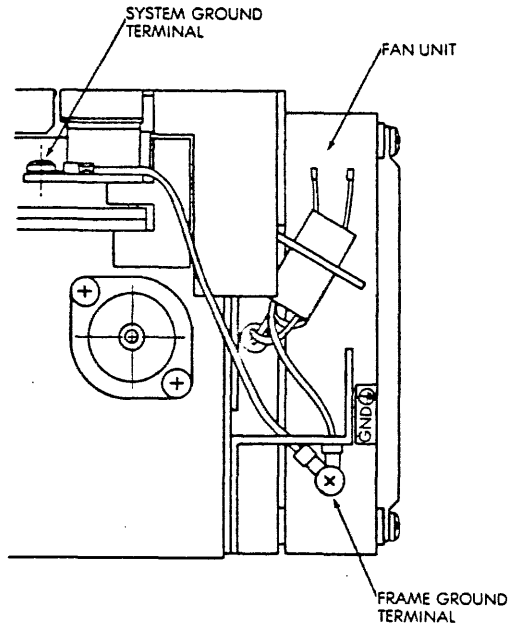

Figure 5-2. SI 9722 Signal Ground to Frame Ground Jumper Strap
The signal ground (SG) and frame ground (FG) are isolated in this drive. If it is necessary to connect the two, this can be done by using the SG grounding lug at the back of the drive. Normally, SG to FG connection is made by a jumper strap on the ground terminal strip of the power supply (see Figure 5-2).